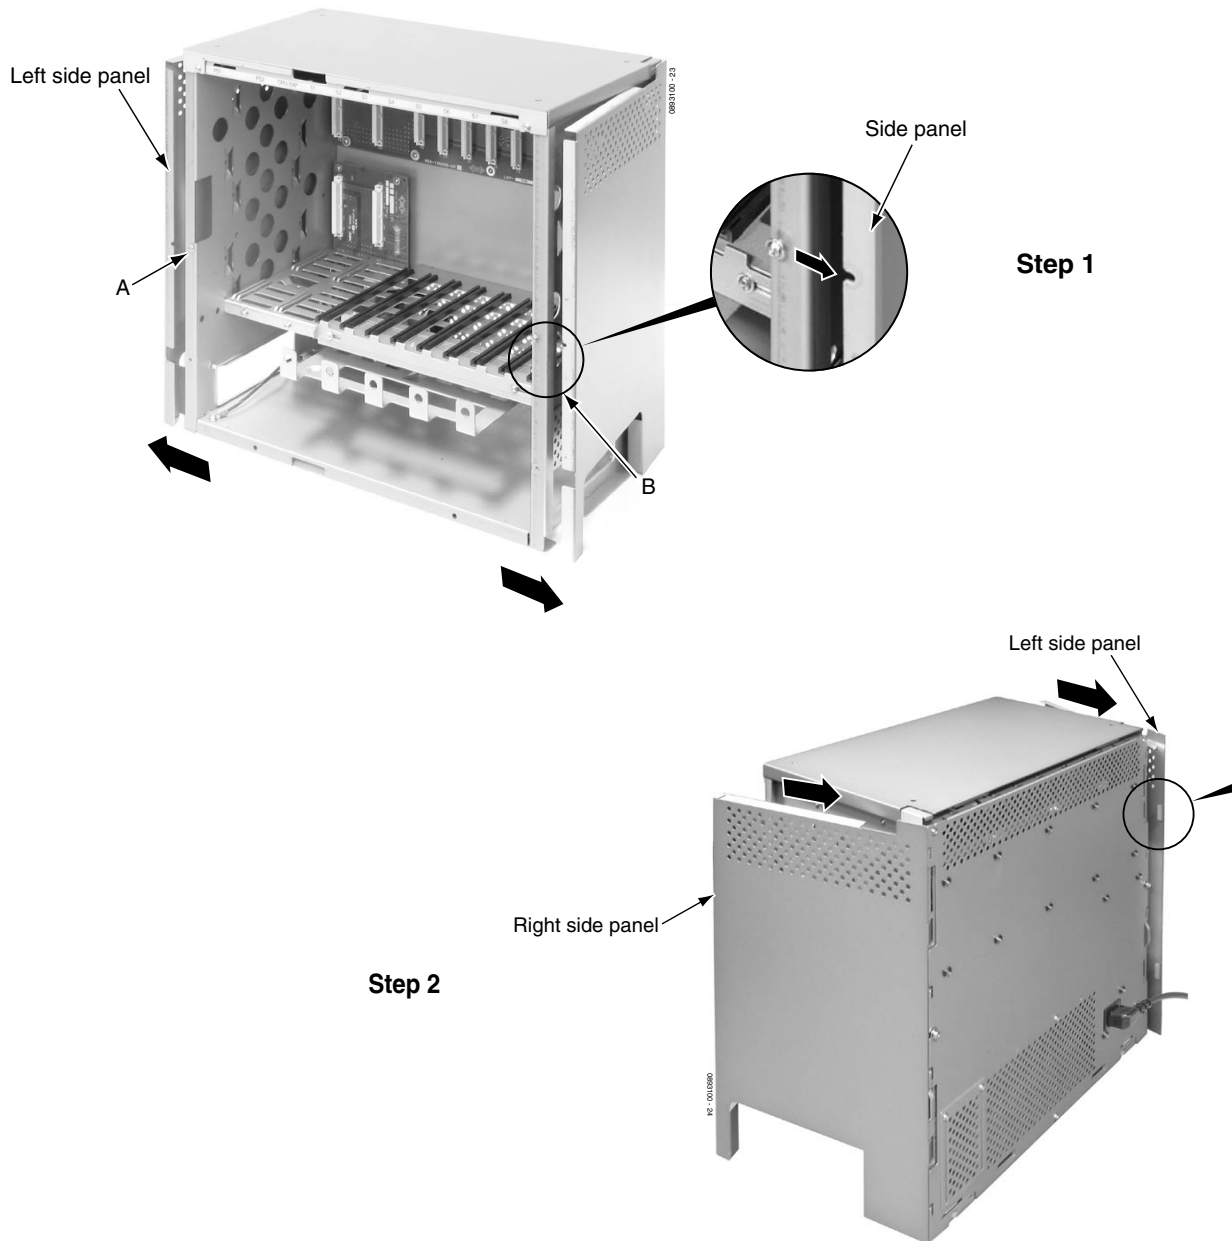

Figure 1-2: REMOVING THE SIDE PANELS
Removing the Side Panels (Figure 1-2)
3. Remove the front and side covers from the Main Cabinet. Refer back to Figure 1-1 and Figure 1-2 if necessary.